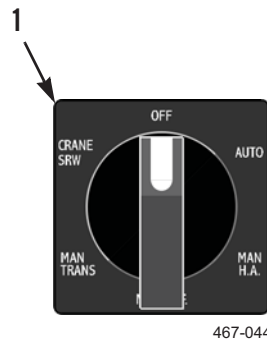

Figure 25. Mode Switch at OFF.
17. With engine at idling speed, set MODE switch (Figure 25, Item 1) to OFF (PLS: TM 9-2320-364-14&P, HEMTT: TM 9-2320-326-14&P).